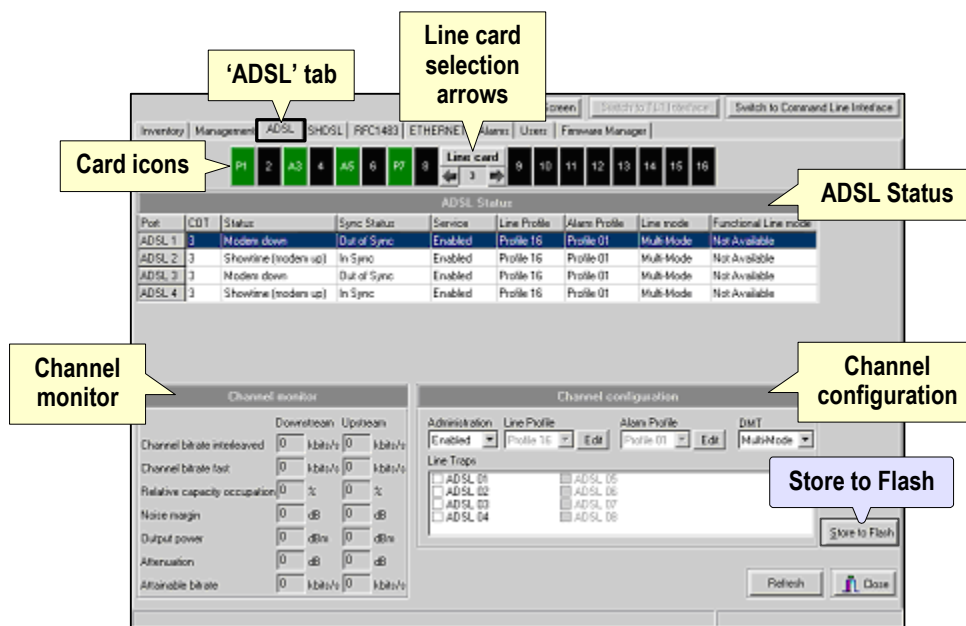

Figure 51 – ‘ADSL’ screen
*The **ADSL** screen (Figure 51) appears.*